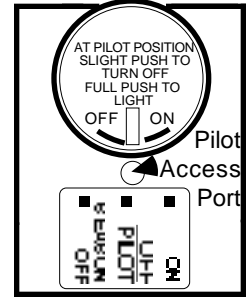

Figure 10
1. Slightly push knob and turn to "SEASON OFF". **Figure 10**
3. Slightly push knob and turn to "PILOT/OFF". **Figure 10**